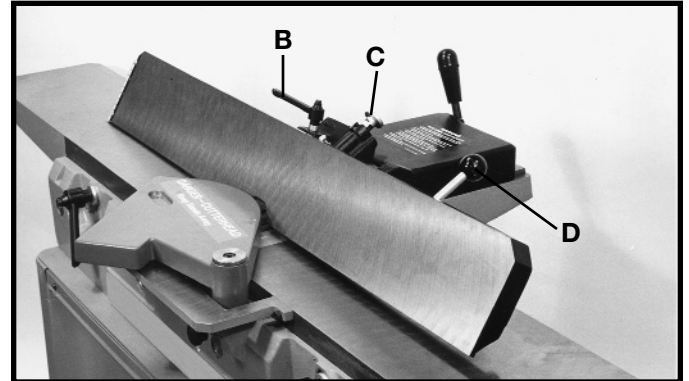
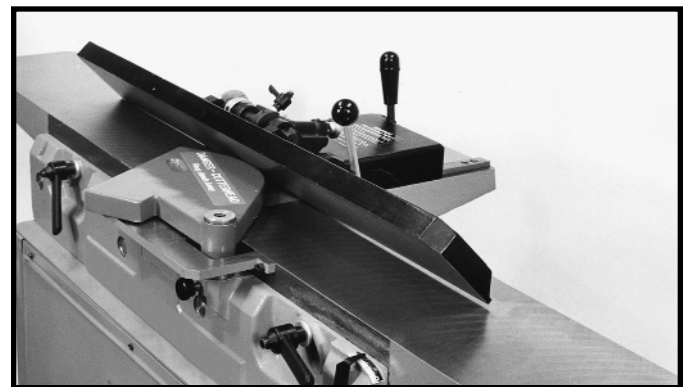

Fig. 31
Fig. 32
To tilt the fence to the right or left, loosen handle (B) Fig. 31, pull out plunger (C) and using the fence tilting lever (D), move the fence to the desired angle and tighten handle (B) securely. **NOTE:** The handle (B) Fig. 31, is spring-loaded and can be repositioned by pulling out the handle and repositioning it on the serrated nut located underneath the handle. **IMPORTANT:** When cutting a bevel, we suggest that whenever possible the fence be tilted toward the table, as shown in Fig. 32. The fence will then form a V-shape with the tables, and the work is easily pressed into the pocket while passing it across the knives.